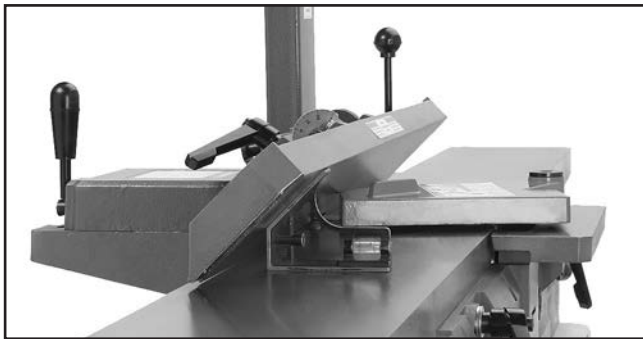

Figure 63. Fence adjusted 45° inward.
2. Tilt fence approximately 45° inward onto stop bolt, as shown in **Figure 63**, then place 45° square against fence and table.